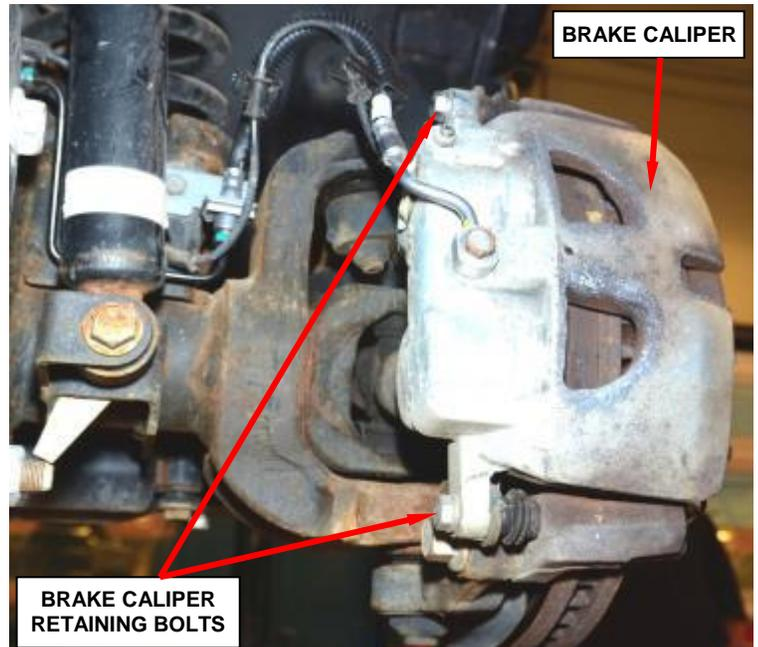

Figure 66 – Brake Caliper Retaining Bolts
7. Remove the front brake caliper retaining bolts and support the calipers using a bungee cords or equivalent (Figure 66).